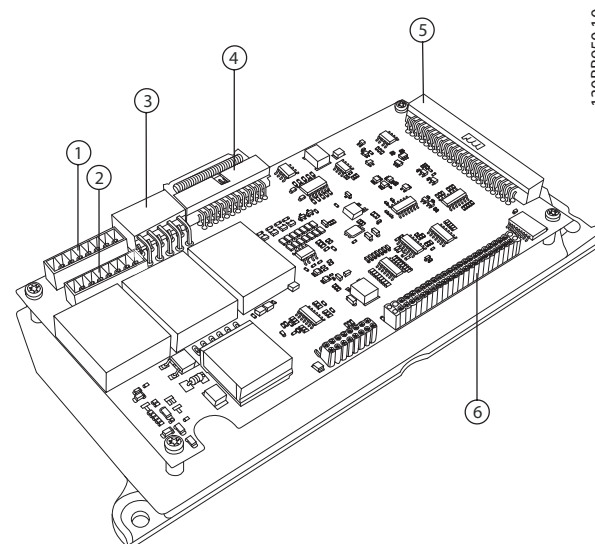

Figure 4.29 AFC Board
To allow for possible reuse of already present CT transformers, the VLT Active Filter allows use of either 1 Amp or 5 Amp CTs. The filter is as standard set-up for 5 Amp CT feedback. If the CTs are 1 Amp, redirect the CT terminal plug from slot MK101, pos. 1, to MK108, pos. 2, on the AFC card; see Figure 4.29.